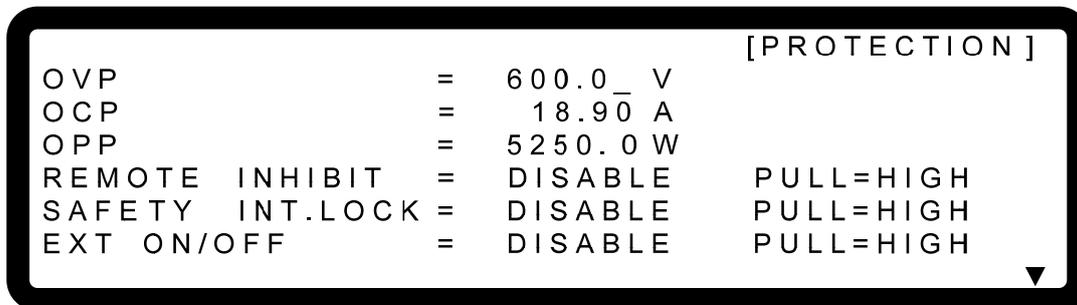

Figure 3-64
1. Use “”, “” keys to move the cursor to the column to be set as Figure 3-64 shows.